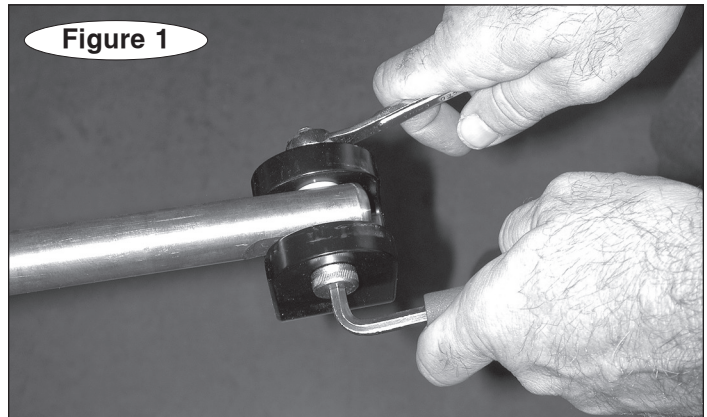

Figure 1
1. Remove the shoulder bolt with the 9/16" wrench and the ¼" Allen wrench (Figure 1).